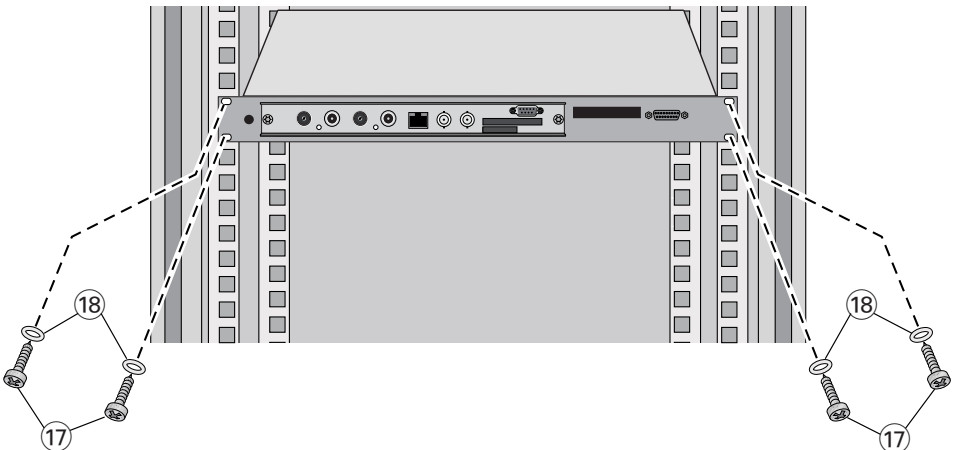

Fig. 12
- Push the head-end station into the cabinet on the preinstalled support elements and fix it with the enclosed screws (17) and the appropriate plastic washers (18) (Fig. 12).